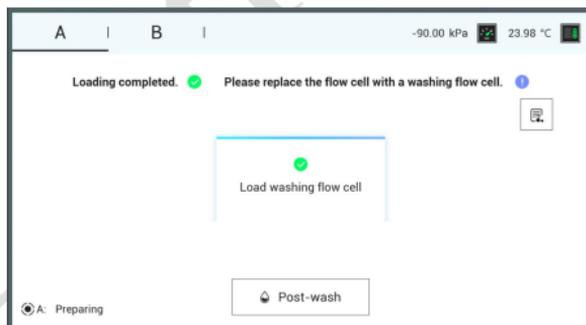

Figure 5-8: MGIDL-T7 Flow Cell Loading Complete Status Window
- When the screen is shown as Figure 5-8, flow cell loading is complete. The process will take around 1 hour and 40 min.